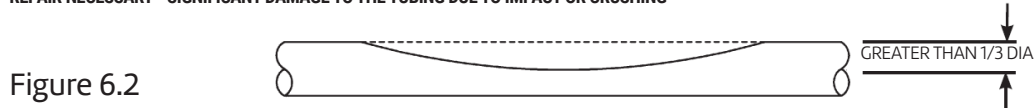

Figure 6.2
- The tubing has been significantly damaged (Figure 6.2).